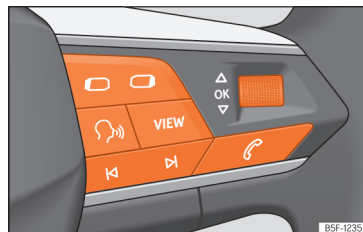

Fig. 70 Right side of the multifunction steering wheel: buttons to the menus and information displays on the instrument panel.
As long as a priority 1 »» page 73 warning is active, it will not be possible to access any menu. Some warnings can be confirmed and hidden with the button **(OK)** of the multifunction steering wheel »» **Fig. 70**.
- If a message or vehicle symbol is displayed, press the button **(OK)** »» **Fig. 70**; if necessary, several times.
- Use the **(◀)** or **(▶)** »» **Fig. 70** to switch between menus.
- To open the menu or the information displayed, press the button **(OK)** »» **Fig. 70** or wait
- In the menu displayed, turn the right thumb-wheel of the multifunction steering wheel »» Fig. 70 until the desired option of the menu is highlighted. The option appears framed.
- Press the button  »» Fig. 70 to make the required modifications. A mark indicates that the system or function is activated.
Press the  or  »» Fig. 70 button.